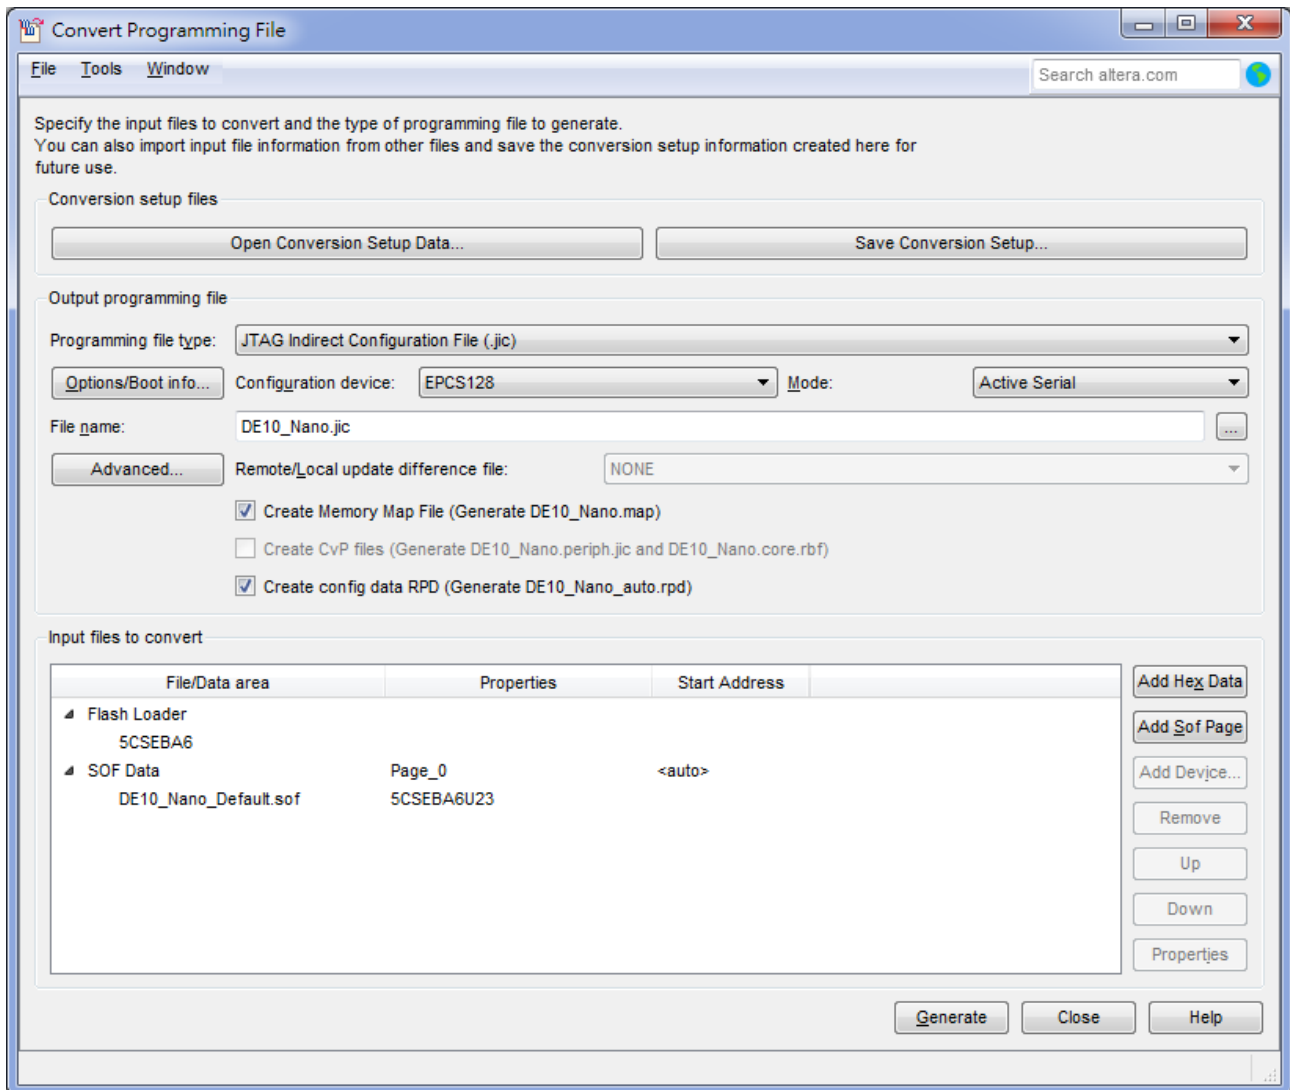

Figure 8-6 “Convert Programming Files” page after selecting the device
12. Click OK and the Convert Programming Files page will appear, as shown in **Figure 8-6**.